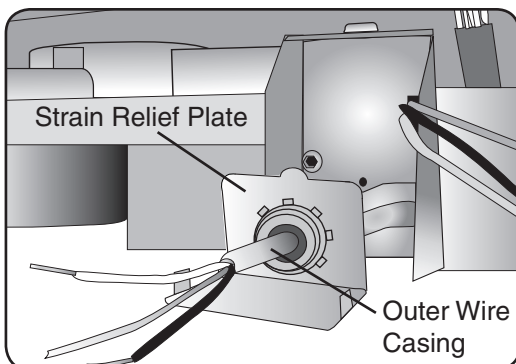

Figure 30
- 2 Pass the electrical supply cable through the strain relief, as shown in **Figure 30**. Make sure the outer wire casing extends about 1/2" (13mm) through the strain relief.